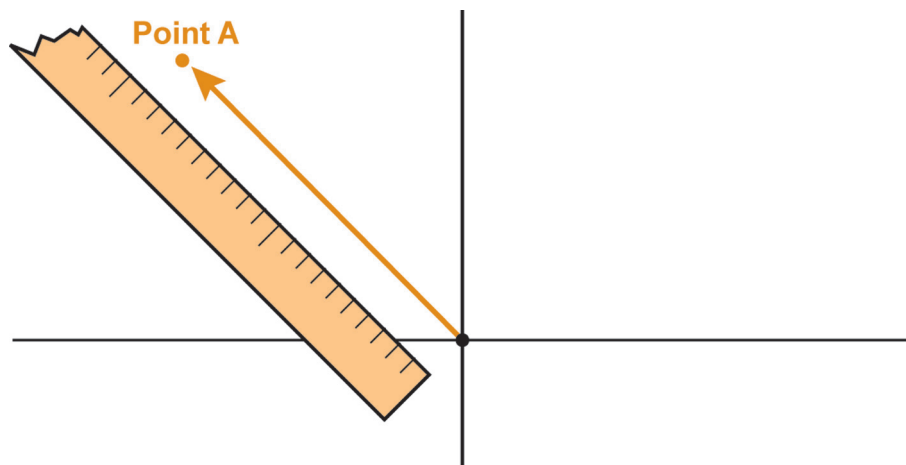

Figure 8
- 2. Locate and mark a point at the exact value of angle A on the graph. Since angle A is negative, the protractor must face to the left. See Figure 8. Use a ruler to draw a line from the origin through the point. The direction of this line represents the direction of F_A .
Make a ruler from a piece of paper marked with the graph scale. Use this ruler to mark off the length of vector F_A on the line, measuring from the origin outward. Label the end point A . Draw an arrowhead at point A . Label this vector F_A . See Figure 8.